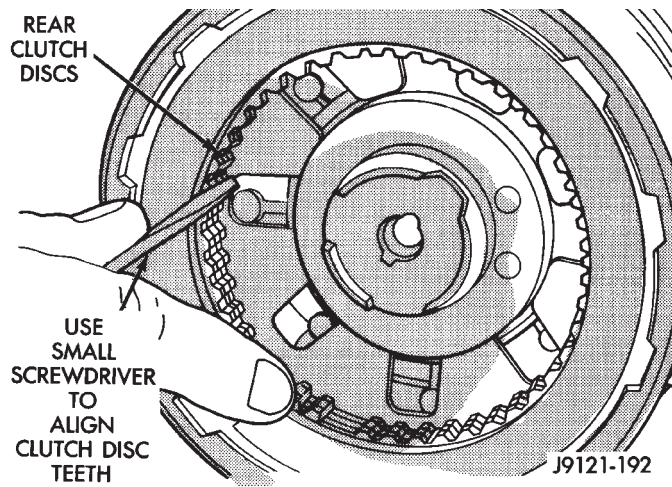

Fig. 105 Aligning Rear Clutch Disc Lugs
(32) Align drive teeth on rear clutch discs with small screwdriver (Fig. 105). This will make installation into front of planetary geartrain easier.